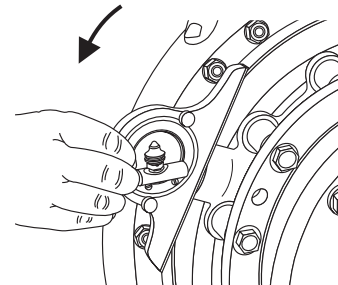
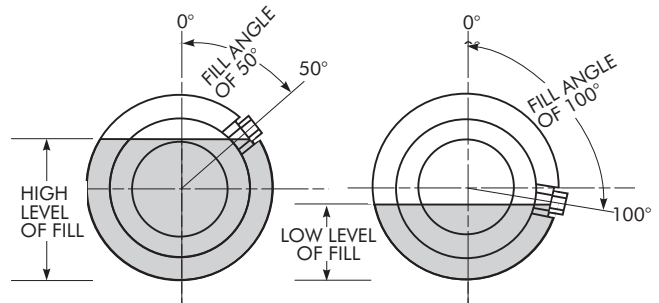

Figure 7
Figure 8
C. Slowly rotate fluid coupling until the required fill angle is achieved, Figure 7. Fluid must appear at the lip of the hole. Add or drain fluid until level is correct. Figure 8 shows fill angle examples.